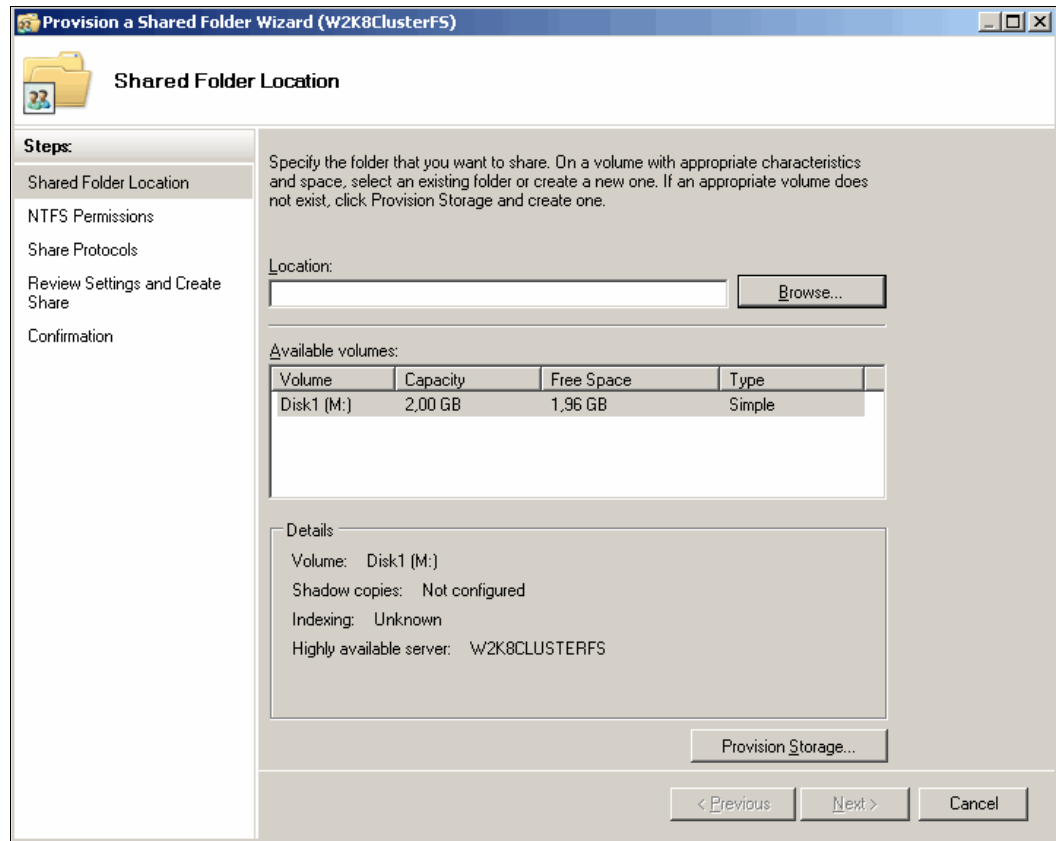

Figure 19-34 Specify the Share Folder Location
- 13.Under **Actions**, click **Add a shared folder**. The **Provision a Shared Folder Wizard** appears as shown in Figure 19-34 on page 583.